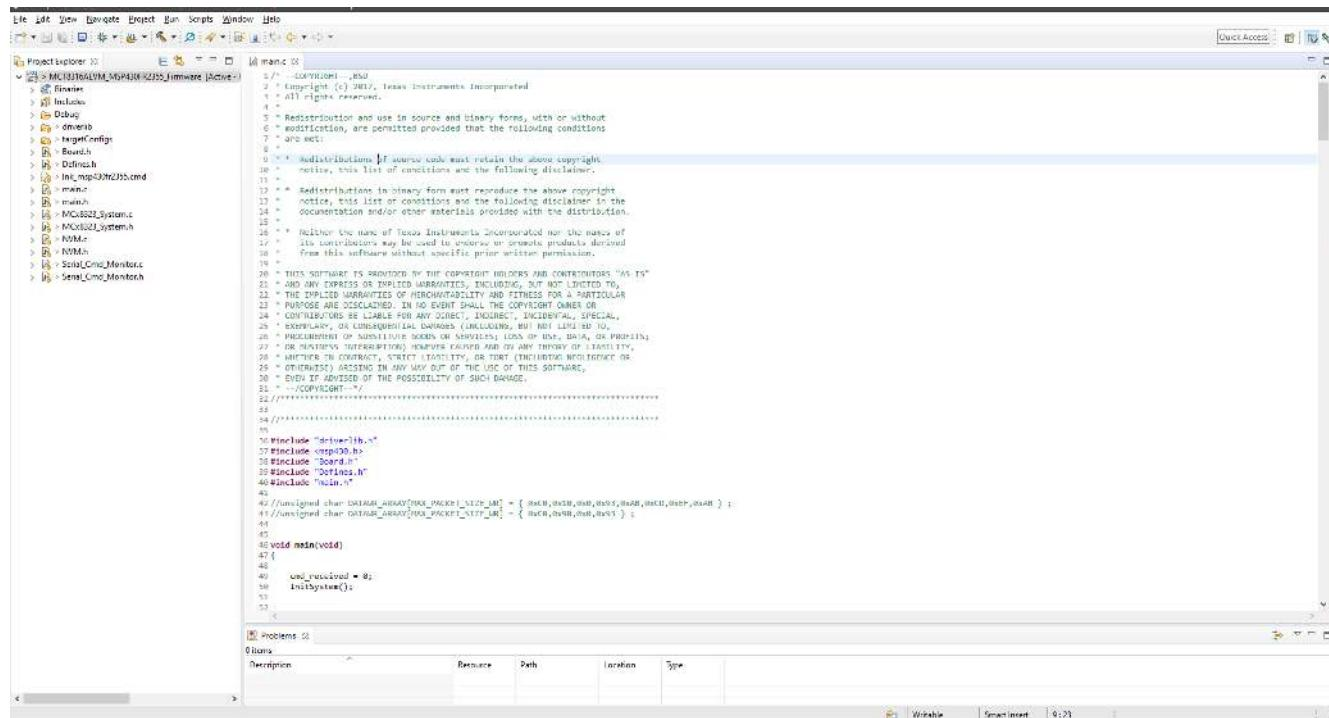

Figure 7-1. MSP430FR2355 Interface Firmware Code in Code Composer Studio
6. Import the project “MCT8316AEVM_MSP430FR2355_Firmware_GUI” into your workspace as shown in Figure 7-1.